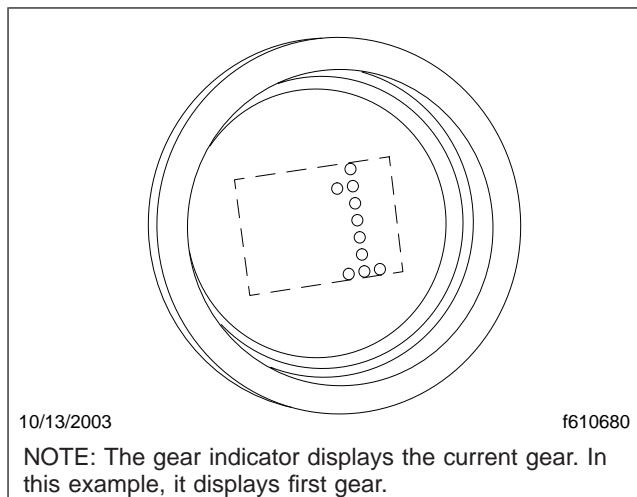

Fig. 8.16, Current Gear Display
In either mode, the gear indicator displays the current gear. See **Fig. 8.16**.
Drive (D) is directly below N on the four-position selector switch located at the end of the SmartShift control lever. To select D, press in the neutral lock button and move the selector switch to the position below N. When drive is selected, the number of the currently selected forward gear (1 through 6 on six-speed UltraShift ASW; 1 through 10 on ten-speed UltraShift DM) displays on the gear indicator. See Fig. 8.16.